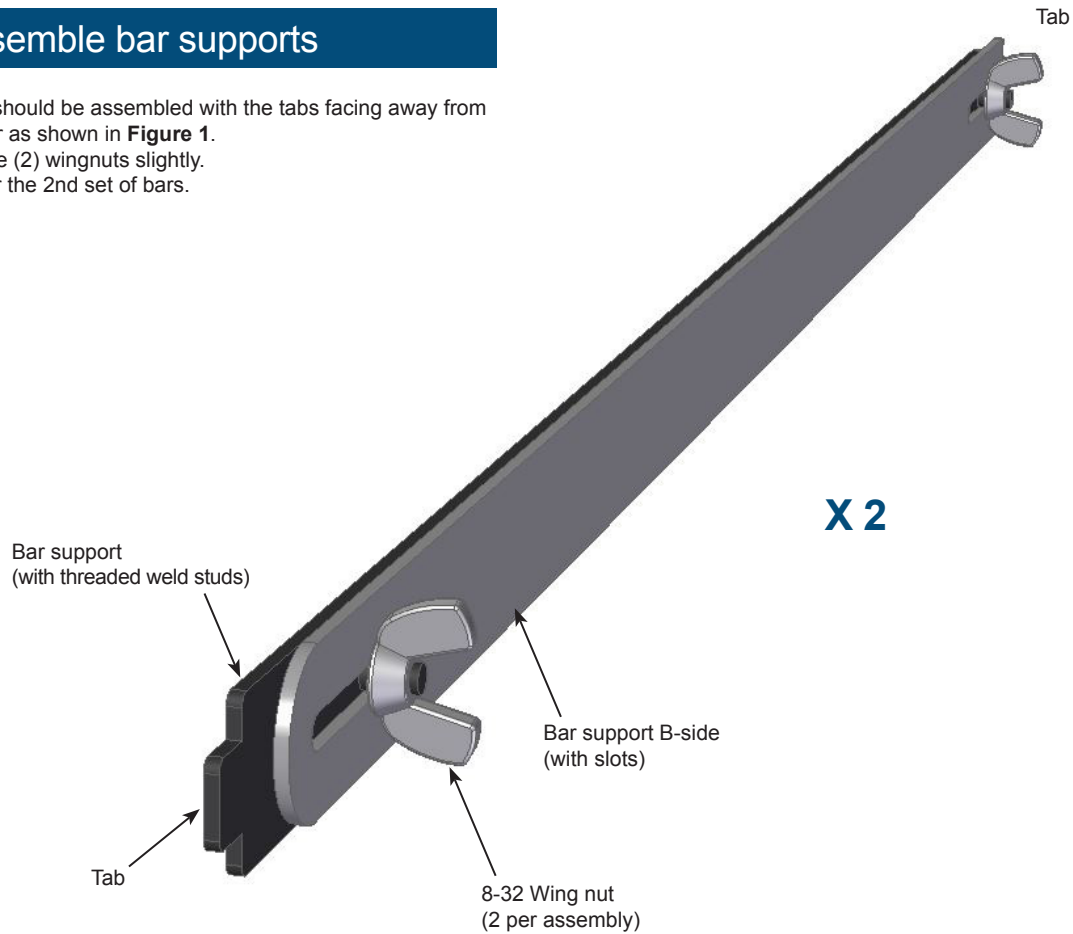

Figure 1
1. The bars should be assembled with the tabs facing away from each other as shown in **Figure 1**.
2. Loosen the (2) wingnuts slightly.